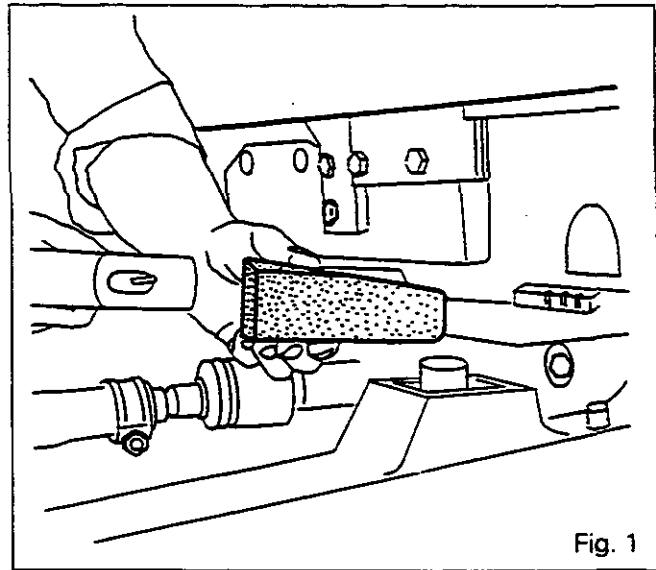

Fig. 1
- fit wedges between the frame and the front axle (Fig. 1).
1. Immobilise the tractor. Apply the handbrake. Fit wedges between the frame and the axle (Fig. 1).